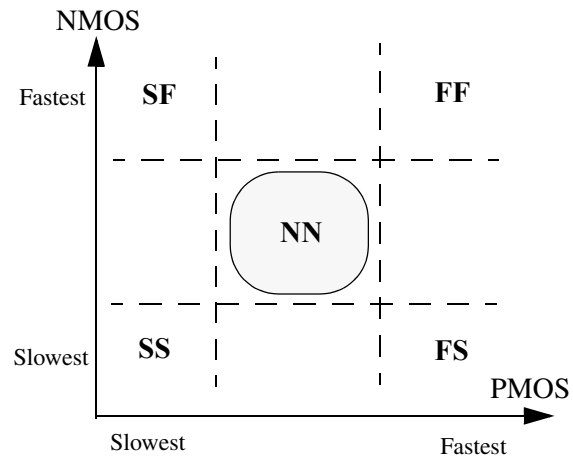

Figure 29. Process Corner Illustration
- i) Divided the process into 5 corners, see Figure 29